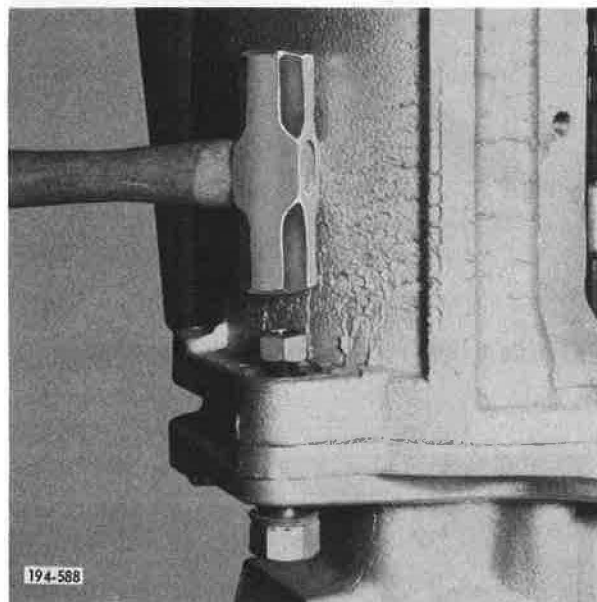

Figure 5-250. Removing Dowel Bolt
30. With nut still engaging dowel bolt threads, drive dowel bolt out. See Figure 5-250.